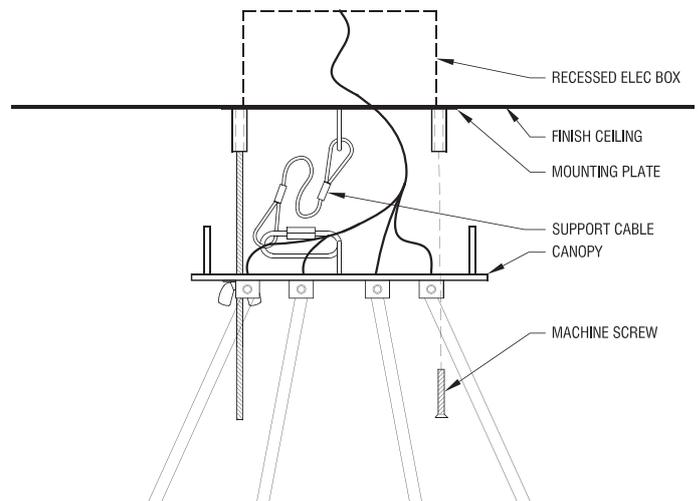

Figure 7. Fasten canopy to mounting plate
- 10 Raise canopy and carefully supported fixture up the nylon all-thread rods all the way flush to the ceiling taking care that no electrical cables or connections are exposed where canopy meets ceiling. Working one at a time, remove a nylon all-thread rod and insert one of the provided machine screws through the countersunk hole in the canopy into the corresponding threaded stand-off on the mounting plate above (Figure 7). Take great care when installing machine screws so that tools do not slip and scratch the canopy finish, nor damage the exposed screw head slots.